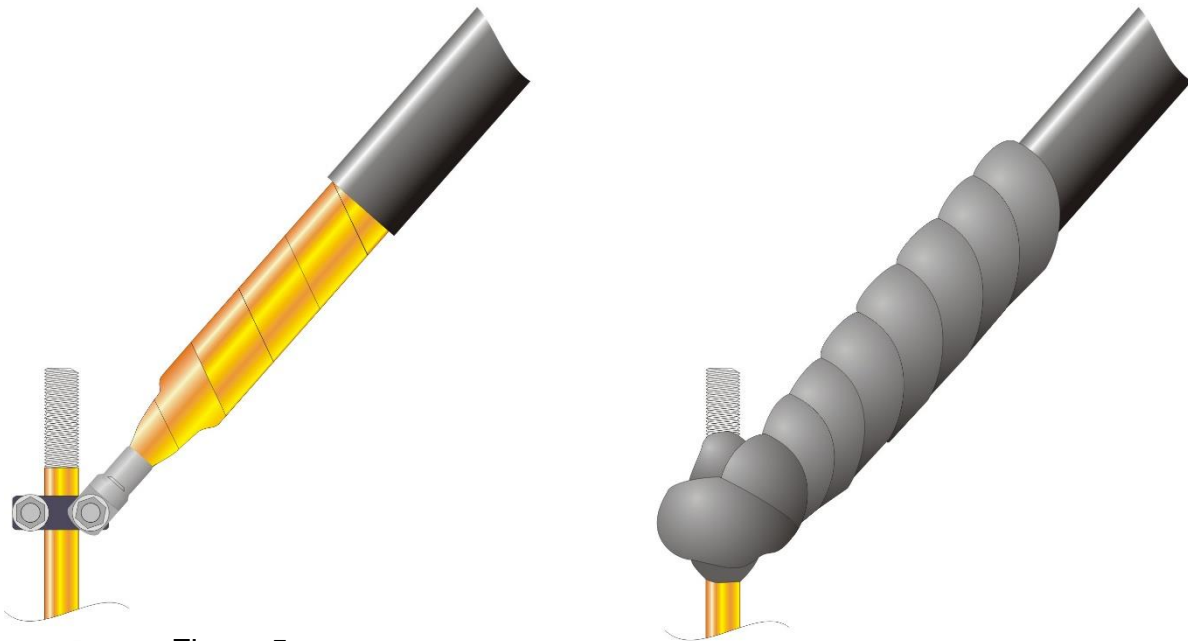

Figure 5.
6. Connect the crimp lug to the earthing system using the supplied U-bolt earth clamp if necessary (Fig 5). Ensure the connection is aligned correctly and tightly secured using a 17 mm spanner, socket or shifting spanner.
7. Use the waterproofing mastic tape to completely cover all exposed conductive areas of the lower termination and to seal the termination from moisture ingress where it connects to the earthing system (Fig 5).